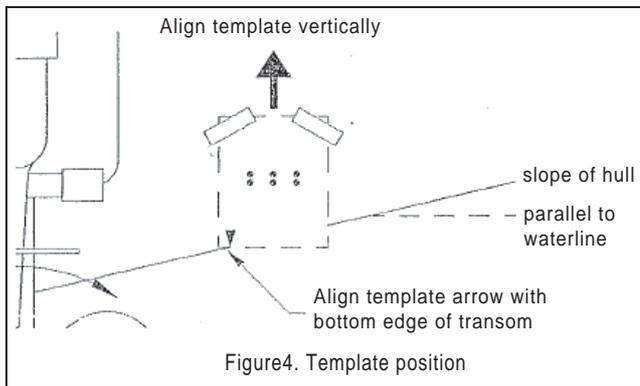

Figure4. Template position
2. At the selected location on the starboard side of the hull, position the template, so the arrow at the bottom is aligned with the bottom edge of the transom (see Figure4). Being sure the template is parallel to the waterline, tape it in place.